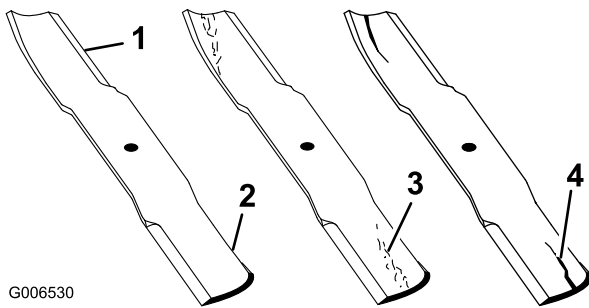

Figure 93
1. Inspect the cutting edges (Figure 93). If the edges are not sharp or have nicks, remove and sharpen the blades. Refer to Sharpening the Blades.
2. Inspect the blades, especially the curved area (Figure 93). If you notice any damage, wear, or a slot forming in this area (Figure 93), immediately install a new blade.